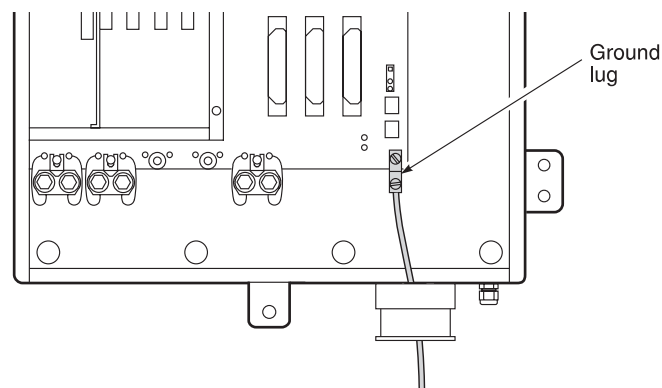

Figure 4. Installing the Ground
8.2 Chassis Ground Wiring. Install the chassis ground (Figure 4):
- 1 Route the chassis ground wire through the small hole in the strain relief on the bottom of the enclosure (Figure 4).